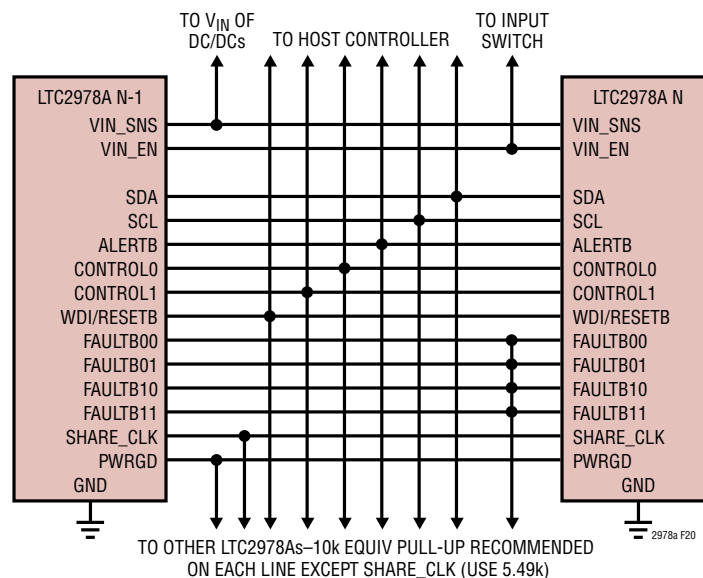
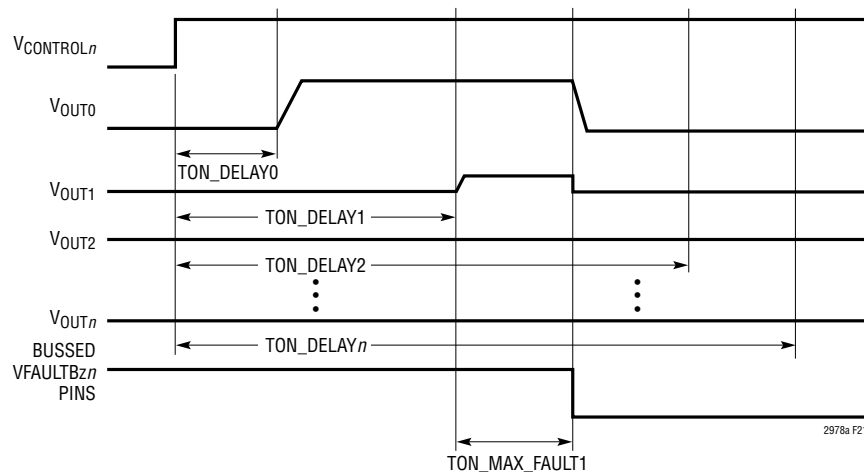

Figure 20. Typical Connections Between Multiple LTC2978As
Figure 21. Aborted On Sequence Due to Channel 1 Short
Figure 20 shows how to interconnect the pins in a typical multi-LTC2978A array.
- The FAULTBzn lines can be connected together to create fault dependencies. Figure 20 shows a configuration where a fault on any FAULTBzn will pull all others low. This is useful for arrays where it is desired to abort a start-up sequence in the event any channel does not come up (see Figure 21).
- PWRGD reflects the status of the outputs that are mapped to it by the MFR_PWRGD_EN command. Figure 20 shows all the PWRGD pins connected together, but any combination may be used. Note that the latency of the PWRGD pin response may be in the range of 30ms to 185ms depending on ADC MUX settings. See Electrical Characteristics Table Note 6.